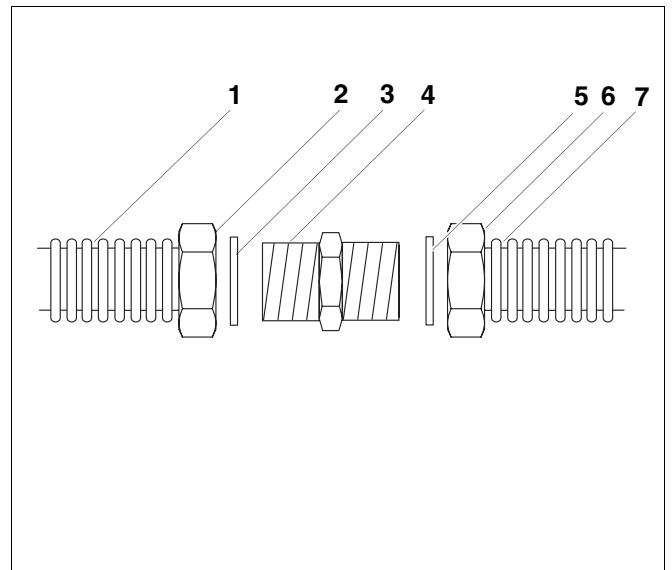

Fig. 10 Extend the corrugated stainless steel hose
Where required, the corrugated stainless steel hose can be extended with a double nipple R1 (Fig. 10, **item 4**).
- Insert the gaskets (Fig. 10, **item 3 and 5**) into the pre-assembled union nut Rp1 (Fig. 10, **item 2 and 6**).
- Thread the ends of the corrugated stainless steel hose s (Fig. 10, **item 1 and 7**) with the pre-assembled union nut Rp1 (Fig. 10, **item 2 and 6**) onto the R1 threads of the double nipple R1 (Fig. 10, **item 4**).